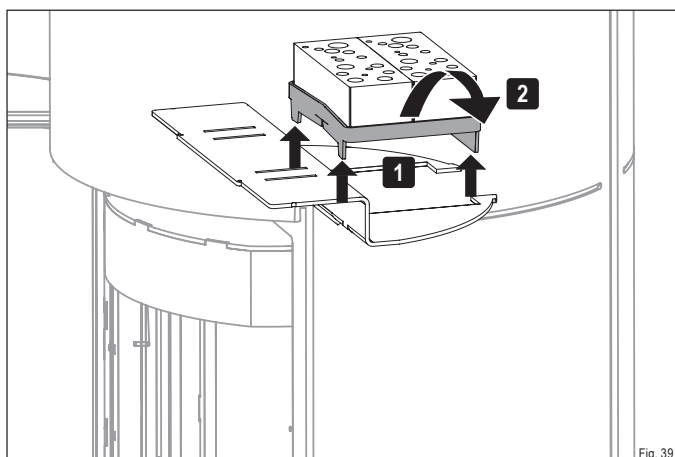

Fig. 39
- ▶ Slide the catalytic combustor unit upward and turn so it fits through the opening (Fig. 39).